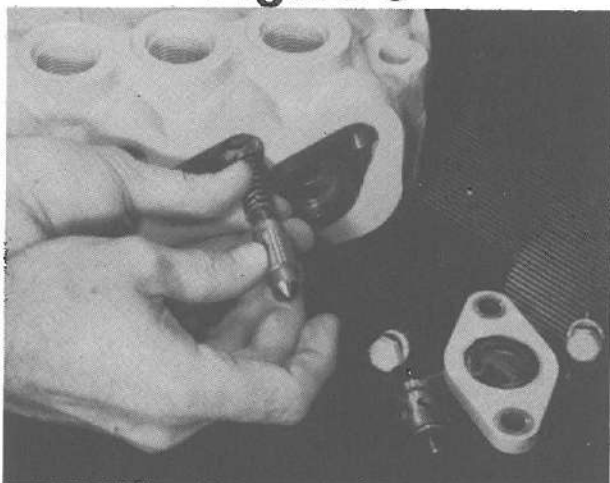

Figure 4
5. Install relief poppet seat (C) with O-rings (D) and (E) in place. See Figure 4.
6. Install lockwasher (B) and capscrew (A).